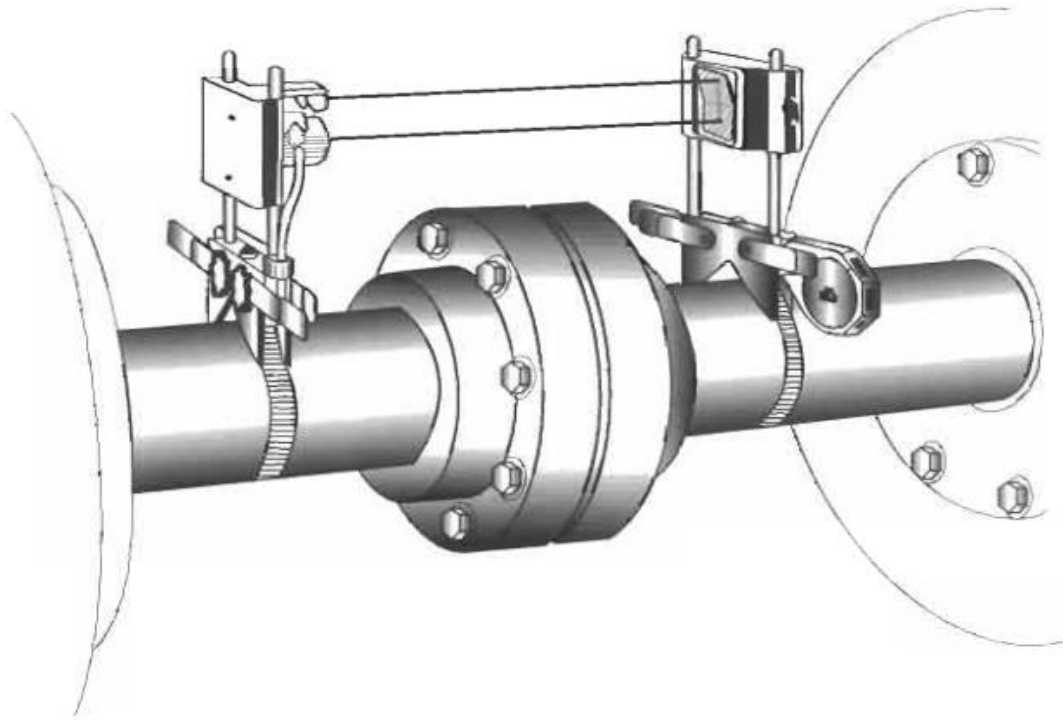

Fig 3.4 Laser Alignment
- Horizontal /parallel misalignment (Figure 3.4)